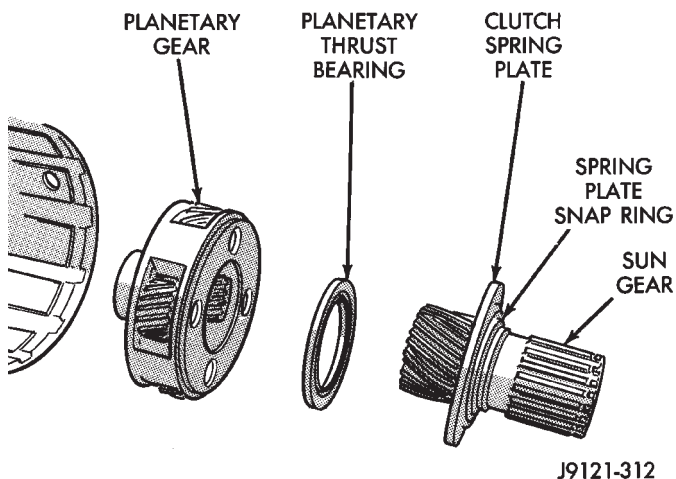

Fig. 26 Removing Sun Gear/Thrust Bearing/Planetary Gear
(16) Remove sun gear and spring plate, planetary thrust bearing and planetary gear (Fig. 26).